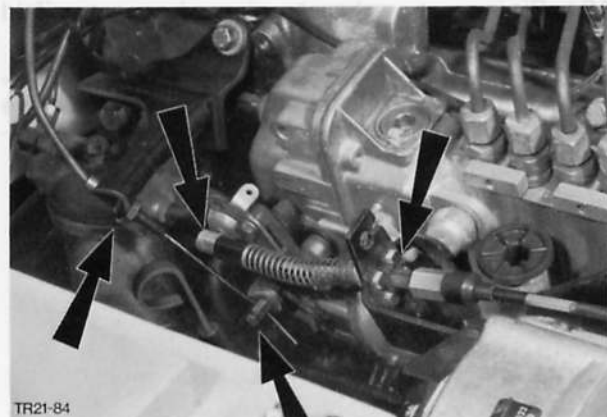

Fig. 18. Disconnect shut-off motor and injection pump cables
10. Disconnect cables from shut-off motor and injection pump, Fig. 18.